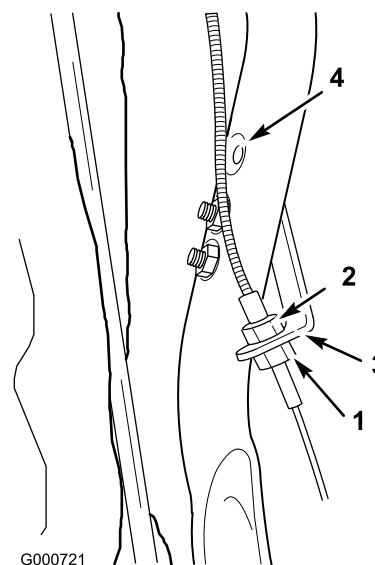

Figure 31
2. Loosen the lower nut on the bottom side of the bracket (Figure 31).
3. Tighten the upper nut to move the cable housing upward (Figure 31), which in turn moves the friction wheel closer to the tire. (In effect, this shortens the cable to compensate for the wear.)
Note: If you cannot adjust the cable any further, move the bracket to the upper hole in the handle and start the adjustment procedure over again (Figure 31).
4. When the proper adjustment is attained, tighten the lower nut against the bracket to secure the adjustment (Figure 31).